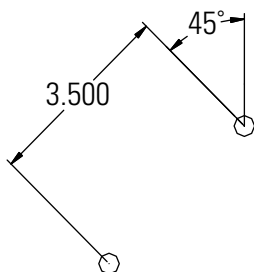

Figure 1
- A. Mark required mounting distance from j-box to mounting center and drill two (2) holes (diameter to be determined by method of support) 45° from horizontal and 3 1/2" apart. (Fig. 1) Refer to page 1 for mounting distance.